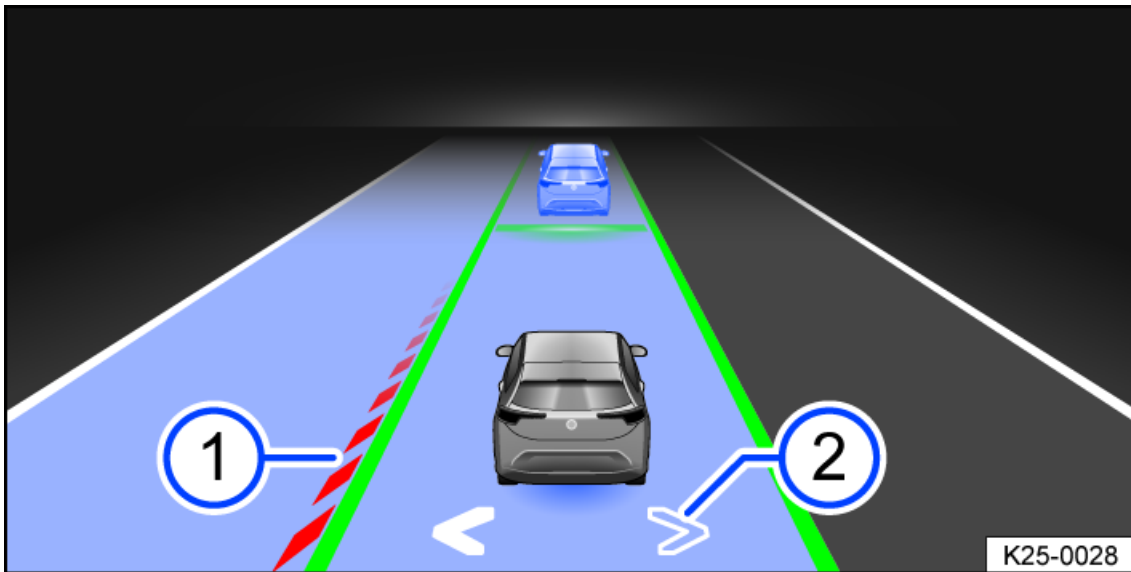

Fig. 107 In the instrument cluster display: lane marking does not allow a change of lane (general example).
- The system has detected a lane marking that does not permit lane changing fig. 107.